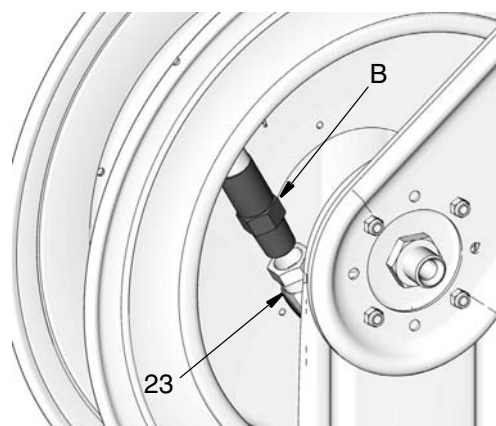

FIG. 5
5. Disconnect hose fitting (B) from swivel fitting (23) (FIG. 5).